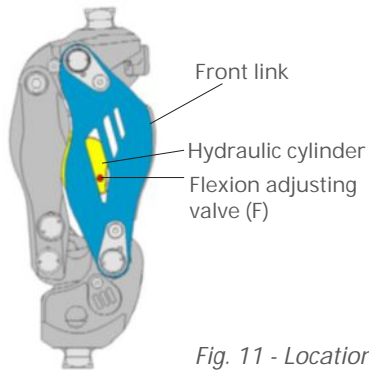
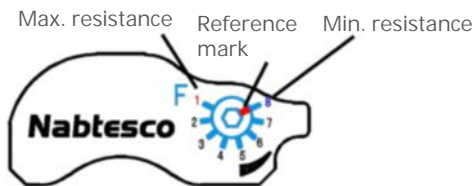

Fig. 11 - Location of the Flexion Adjusting Valve
Fig. 12 - Graduated Scale of the Flexion Adjusting Valve
At first, adjust the flexion resistance. As shown in Fig. 11, the flexion adjusting valve (F) is located on the right when viewed from the user. As shown in Fig. 12, the scale is graduated from "1" to "8". "1" corresponds to the highest hydraulic resistance, and "8" corresponds to the lowest.